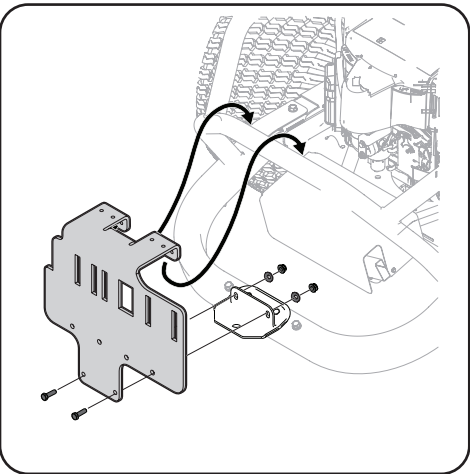

Figure 4-4
- Hang adapter bracket assembly onto upper frame tube and connect to hitch bracket adapter (789-02298) with two screws (710-0376), two cup washers (736-0242), and two flange lock nuts (710-04063). See Figure 4-4.